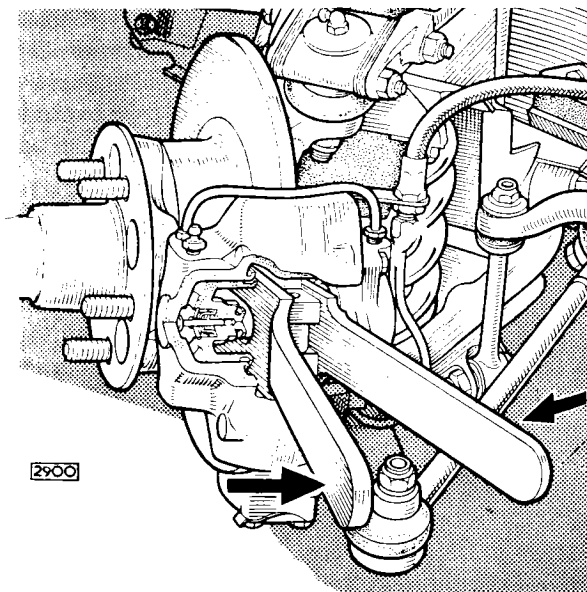

Fig.22. Resetting the pistons with the special tool, Part No. 10416.
- (d) With the aid of the special tool (Part No. 10416), press in the piston assemblies to the base of the cylinder bores as shown in Fig.22.